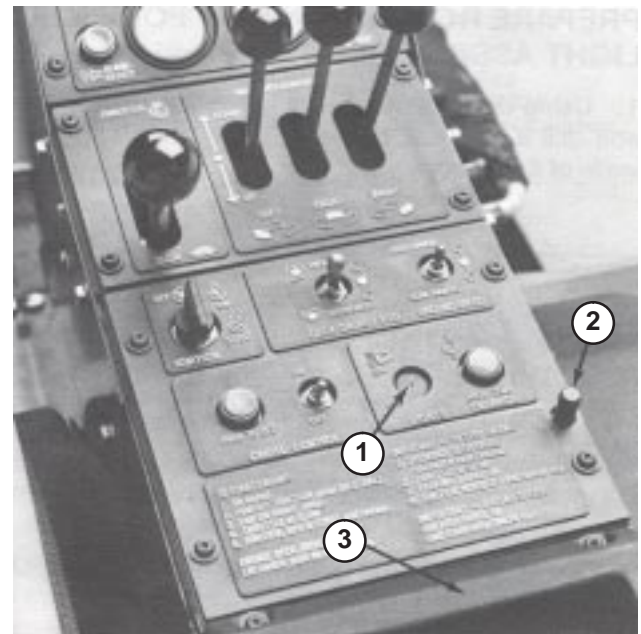

Figure 2
1. Locate light switch mounting location on the control panel (Fig. 2).